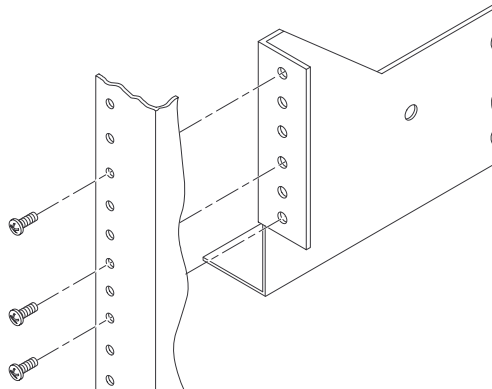

FIGURE 2-4 Attaching the Mounting Rail to the Front of Cabinet
- b. **Move to the front of the cabinet and align the mounting rails horizontally behind the vertical rails of the cabinet (FIGURE 2-4).**